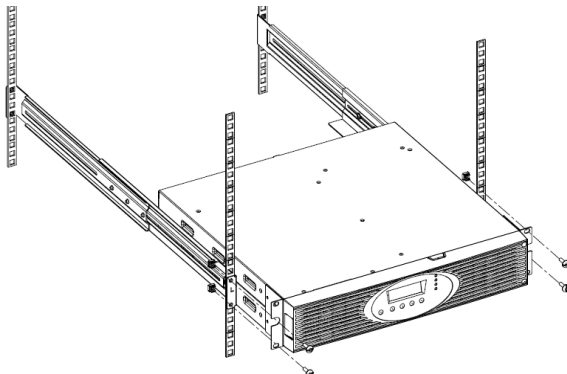

Figure 4: Attaching the front of the housing
6. Secure the front of the UPS system resp. the battery module to the rack. Use two M6 x 16 pan-head screws and two M6 cage nuts (see Figure 4). Mount the upper screw on each side through the lower hole of the mounting bracket and the lower hole of the rail.